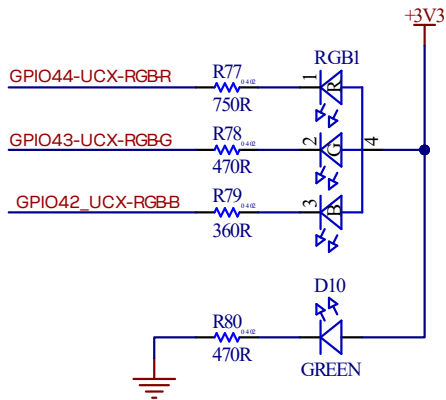

Figure 18: Schematic – RGB and power LED
- System status (**RGB1**): Powered by **+3V3** and turned on by pulling the associated GPIO low. Associated GPIOs can be used as ADCs after disconnecting each LED by removing resistors **R77-R79**, as shown in Table 4 and Figure 18.